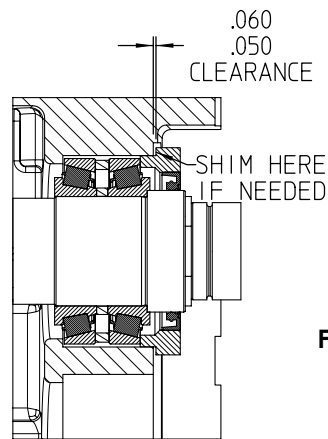

FIGURE 17
- When back face clearance has been established in accordance with the value shown in Table 6, remove body and secure shaft assemblies in the gear box with bearing retainers. Do not apply sealant at this time. Retainers must seat firmly against the bearing and leave .050-.060" clearance between retainer and gear box. Use shims if needed to obtain this clearance. See Figure 17.